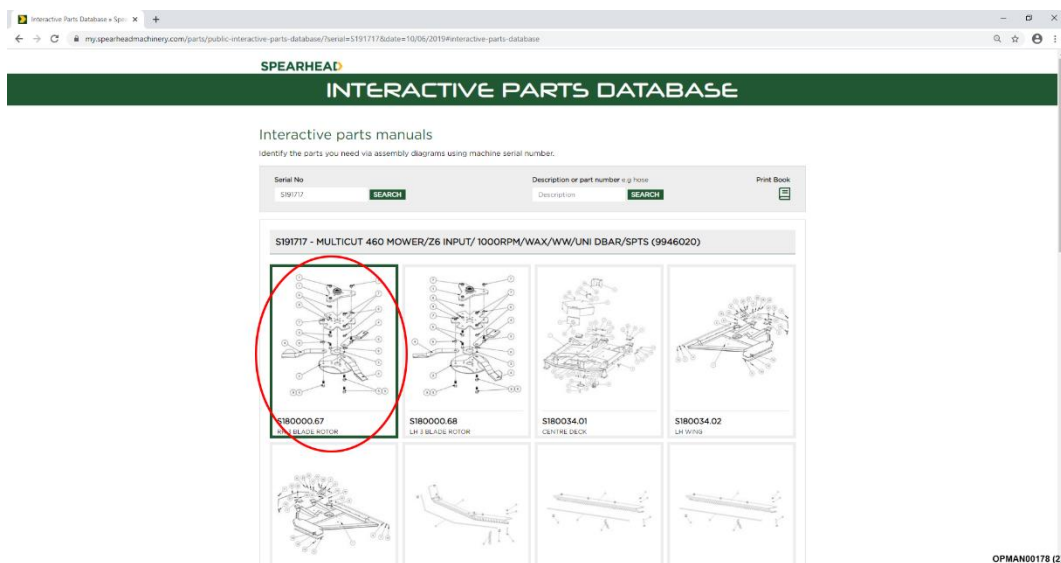

Figure 18 – Click On Assembly
7.1.1.3 After clicking on the serial number a full parts breakdown, specific to the machine serial number will appear showing the various parts and assemblies of the machine. Click on the specific assembly picture required; see Figure 18.